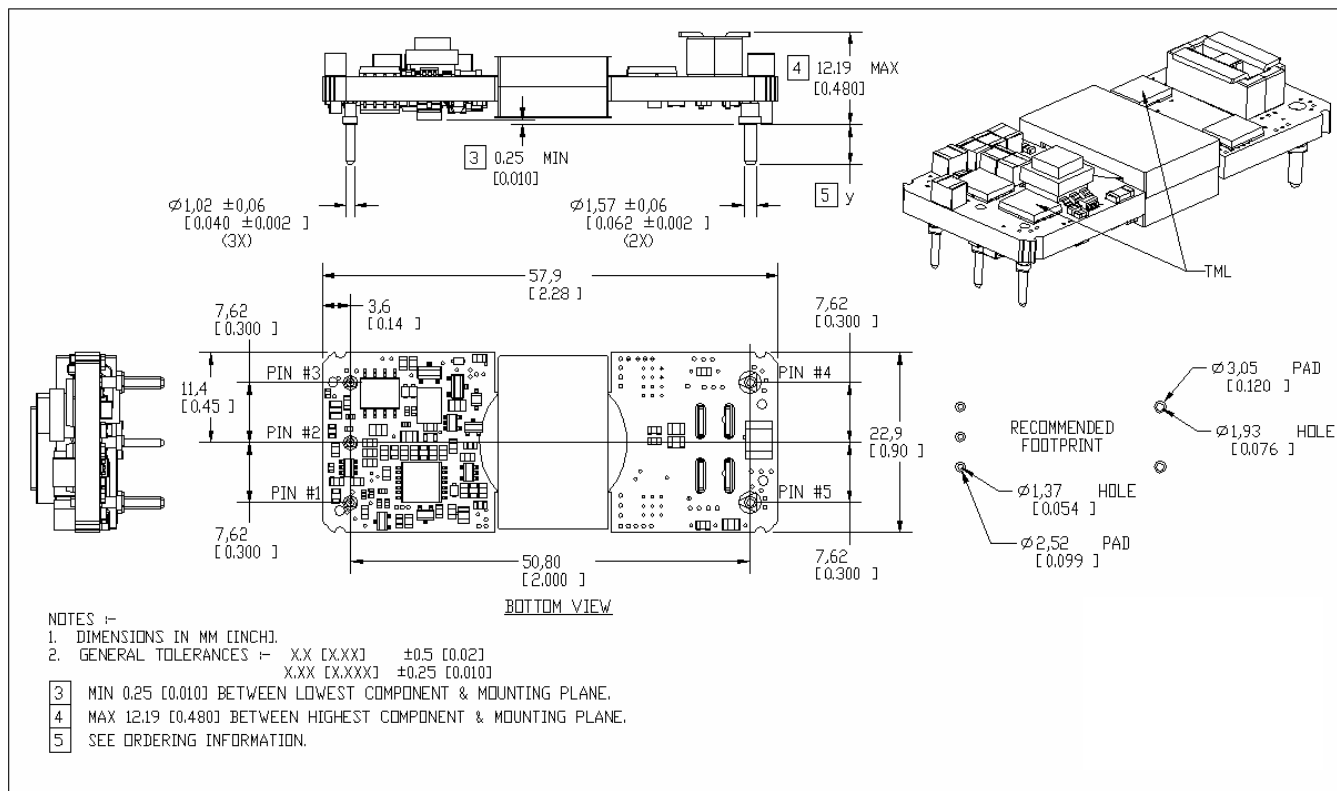

Figure 1
- (1) Vin = 48Vdc, Ta = 25 °C, Airflow = 200 LFM for all data unless otherwise noted.
- (2) Output Ripple Voltage and noise is specified when measured with no external capacitance.
- (3) Transient response is specified without a capacitor at the output of the converter.
- (4) Thermal shutdown is monitored at the Thermal Measurement Location (TML). See 'Mechanical Information' on page 3 for TML location.
- (5) See 'Safety Considerations' shown in Figure 1.
- (6) De-rating curves are conducted in a controlled environment. End application testing is required to ensure the Thermal Measurement Location temperature is below the maximum specified. Recommended airflow direction is from pin 1 to pin 3, or 3 to 1 (transverse to the unit)
- (7) Current share accuracy is optimized when the source and load impedance presented to each converter is equal.
- (8) Input Reflected Ripple is specified when measured with a 12uH source inductance.